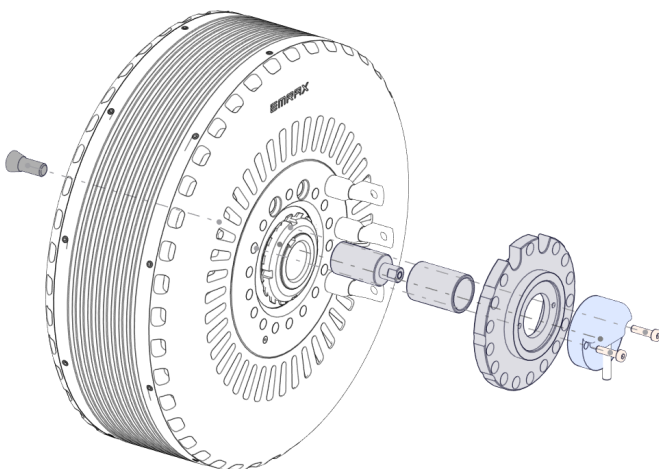

Figure 2: Encoder assembly
1. Place an adapter (1) inside the motor shaft (this step is only required for the 268 and 348 motor types). Before inserting the part use threadlocker glue on the faces, where the parts are mated.
2. Insert the tapered bolt (7) into the encoder magnet set (4) and lightly tighten it. Using threadlocker glue supplied with the kit on the threads is recommended.
3. Insert the encoder magnet set (4) into the backside of the motor (as shown on Figure 2), inside the motor shaft. Before inserting the part use threadlocker glue on the faces, where the parts are mated.
4. Mount the encoder bracket (2) on the back of the motor (as shown on Figure 2). Make sure that it is seated in its position, if necessary, use temporary bolts to tighten it to the motor (If the motor is liquid or combined cooled, please make sure that the coolant fittings are inserted, before mounting the encoder bracket, please refer to 3.5).
5. Align the encoder magnet set (4) to the sensor mounting flange of the encoder bracket (2).
6. Tighten the tapered bolt (7).
7. Mount the RLS RM44 encoder (3), to the mounting flange of the encoder bracket (2). Use the supplied M4x16 bolts (2), to mount the encoder. Using threadlocker glue on the threads is recommended.